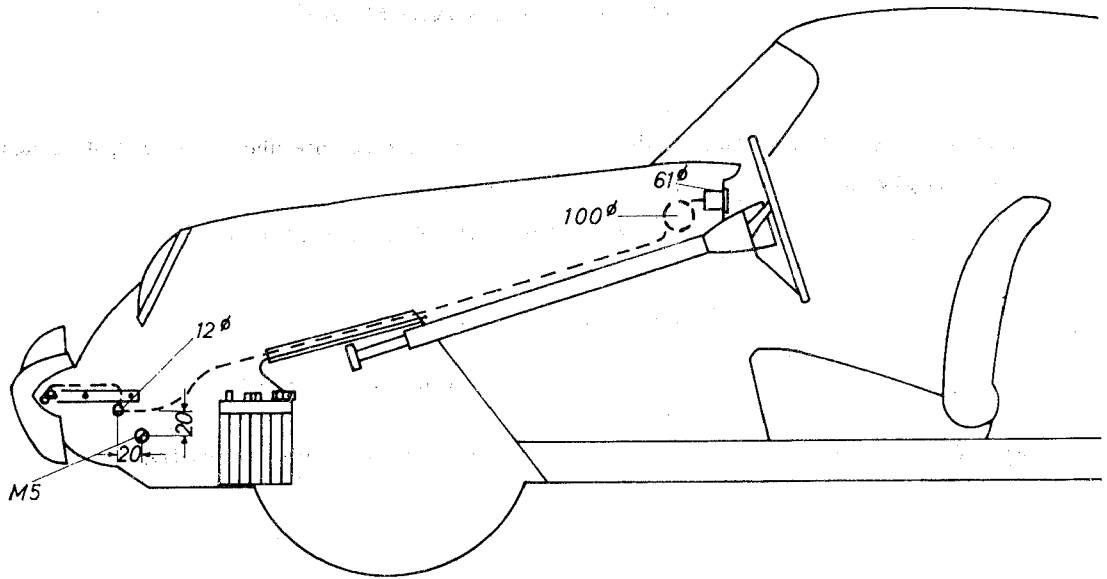

Fig. 2
5. Drill a 12 mm diam. hole into the right panel of the front compartment in front of the battery just above the earthing screw M 5 (see Fig. 2).
Seal 12 mm bore in the front compartment with grommet. Roll up and fix behind the dashboard any possibly remaining capillary tube (see Fig. 2).